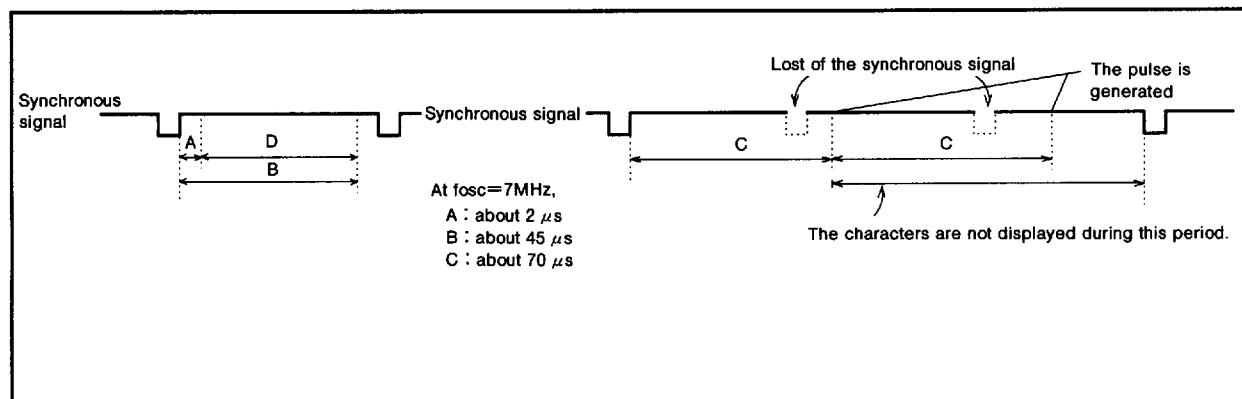

Fig. 9 Example of time base function
- (1) Time base 0—TBASE0 (DA6 of address F1₁₆)="1".
- Cut-off a noise during D period of Figure 9.
- (2) Time base 1—TBASE1 (DA7 of address F1₁₆)="1"
- Generate the pulse if the synchronous signal has not input during C period of Figure 9. And stop to display the character till the next synchronous signal is input.